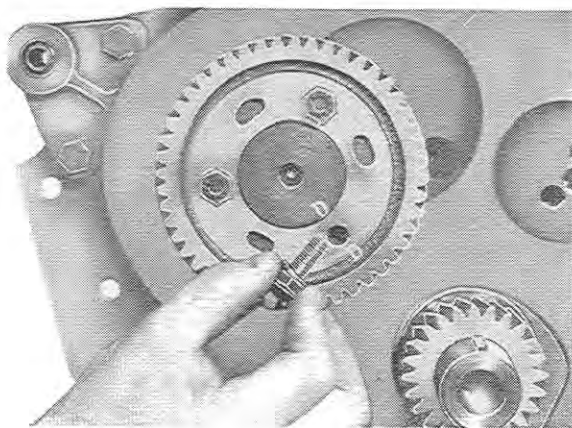

Fig. 13
- 1) Put the gear in place on the camshaft and fix it with its three screws having checked that the marks D on the two parts correspond (Fig. 13).